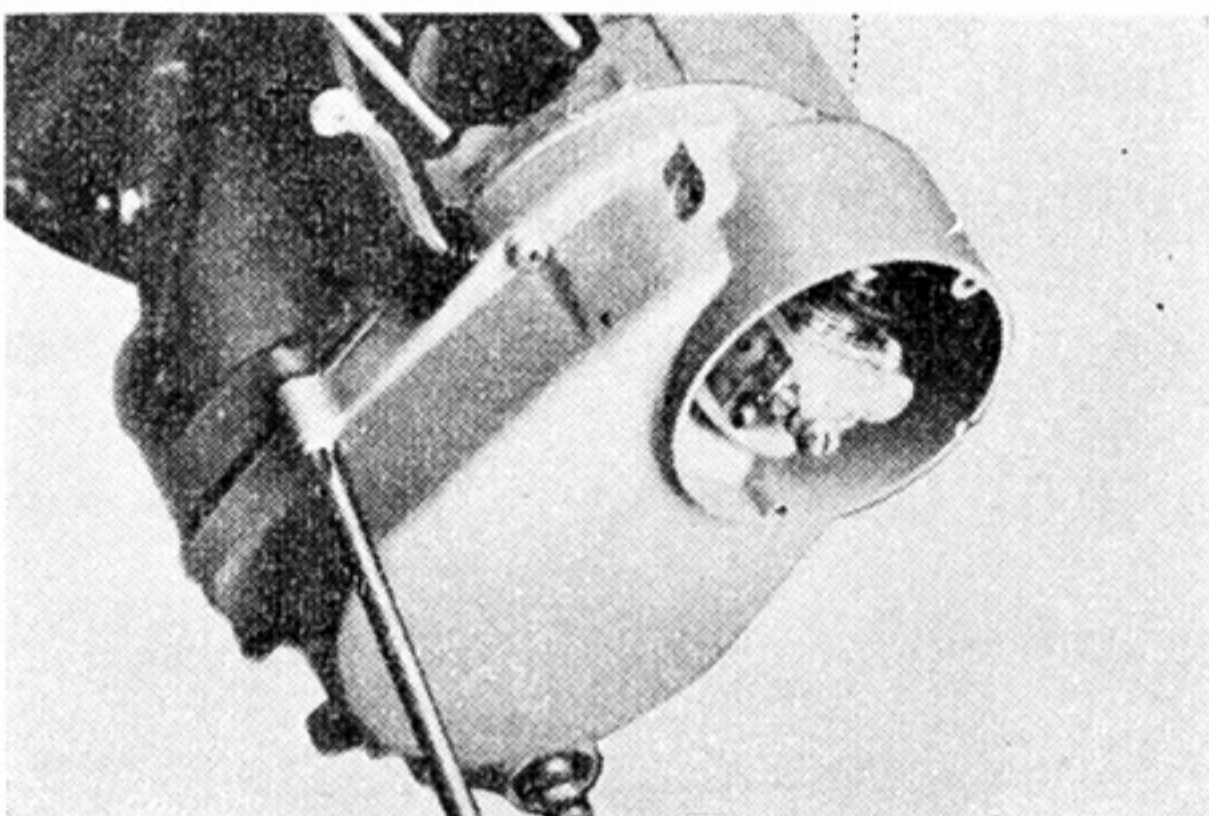

Fig. 3-7-2
- b. Remove the pan-head screws from the crankcase cover (R), and take off the cover. (Figs. 3-7-2 and 3)